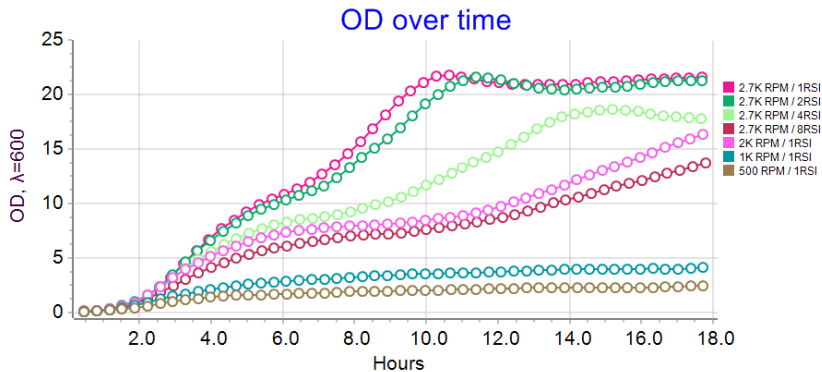
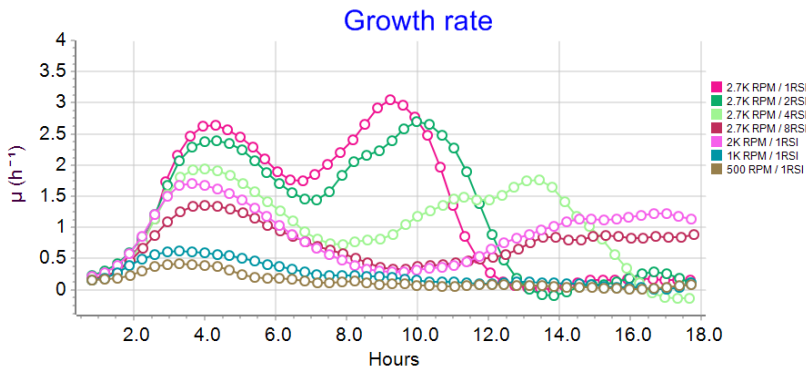

Figure 5. Influence of Interval of Reverse Spinning and RPM on the Growth kinetics ($\Delta OD_{\lambda=600nm}/\Delta t$) vs Time of fermentation (h).
Figure 6. Influence of Interval of Reverse Spinning and RPM on the Growth kinetics ($\Delta OD_{\lambda=600nm}/\Delta t$) vs Time of fermentation (h).
It is known that aeration affects the growth and growth rate of aerobic microorganisms. The RSI and RPM affect the rate of oxygen uptake in the bioreactor. Results obtained in fig. 5 and fig. 6 indicate that the maximum rate of cell division is detected at RSI of 1 s^{-1} at a speed of 2700 rpm. The increase of pause between reverse spins reduces cell growth rate and OD yield, reaching ~44% of the maximum value (RSI 1 s^{-1}), when RSI is 8 s^{-1} .
9.2.1 Legend of experiment (fig. 5.): Multi-channel bioreactor RTS-8 plus was used with 850 nm laser, volume of Terrific Broth (TB) in 50 ml Falcon tube was 10 ml, RSI 1, 2, 4, 8 s^{-1} , MI 10 min, RPM 2000, temperature 37°C , TPP Bioreactor vessels.